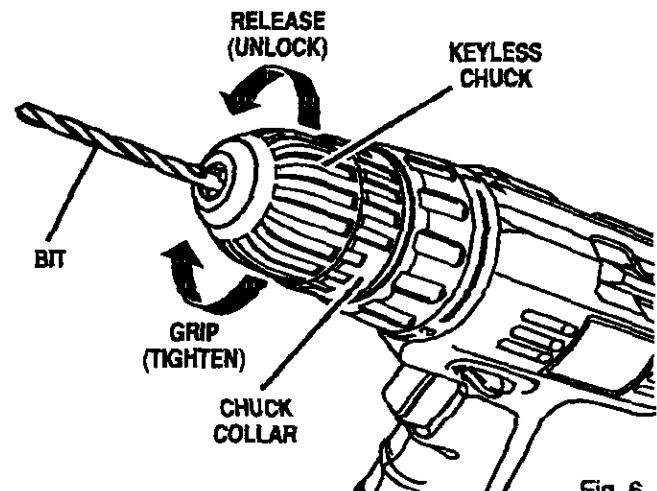

Fig. 6
- Locate latches on side of battery pack and depress both sides to release battery pack from your drill. See Figure 6.
See Figure 6.